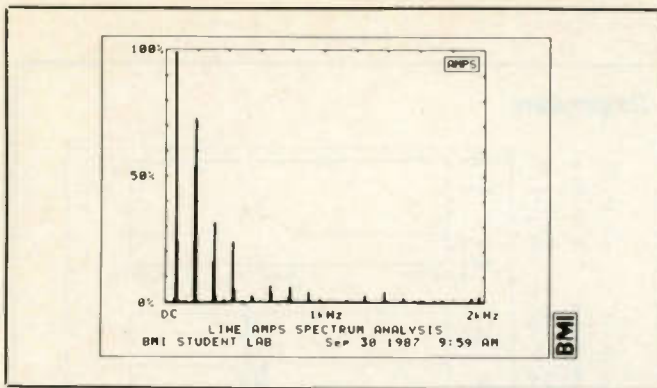

Figure 11.
10. Harmonic distortion can shorten equipment life and cause serious safety problems due to overloaded transformers and conductors. See Figure 11.